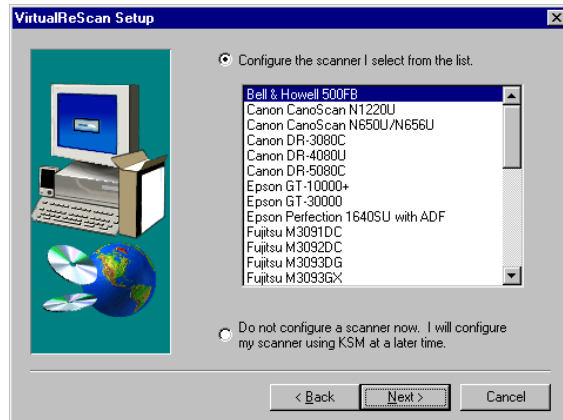

Figure 18. VirtualReScan Setup Dialog Box – Scanner Selection
- 10 On the screen similar to Figure 18, select a scanner to use with Software VRS.